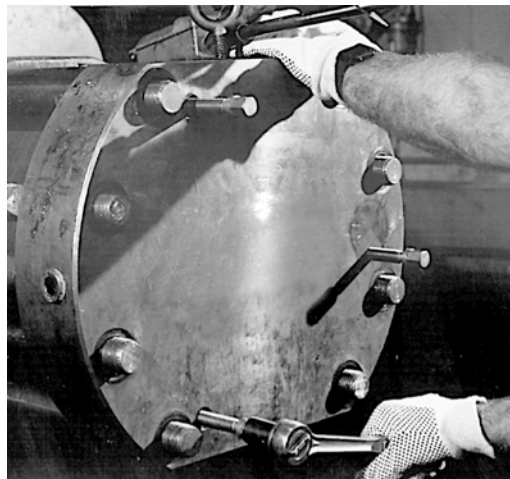

Figure 5-54. Typical Jack Screws Used in Cylinder Head Removal
- c. Using a $\frac{3}{8}$ " hex wrench, remove the four pipe plugs, install four $\frac{5}{8}$ "-11UNC jackscrews, and then remove the cylinder head with lock rods from the cylinder by alternately screwing the jack screws into the cylinder head (see Figure 5-54).